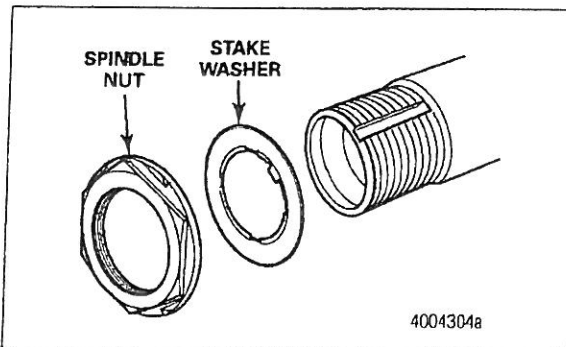

Figure 10
4. Check the spindle threads. Figure 10.